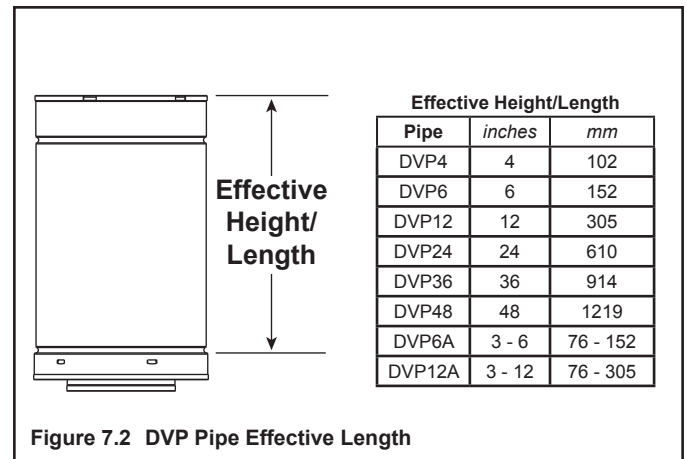

Figure 7.2 DVP Pipe Effective Length
- Pipe measurements are shown using the effective length of pipe (see Figure 7.2 and 7.3).